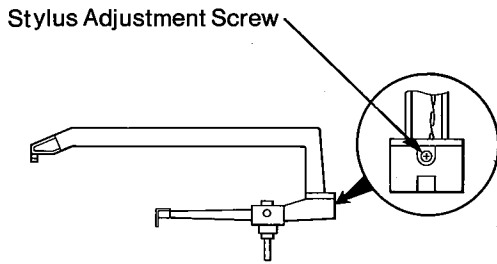

Fig. 2
4. Turn the stylus pressure adjustment screw as shown in Fig. 2 through the stylus pressure adjustment hole, so that the stylus pressure meter indicates $1.8 \sim 2.2$ g.